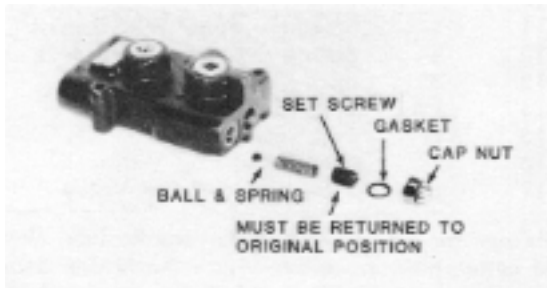

FIG. 15. Implement Relief Valve
5. The relief valve should be removed for cleaning. Remove the cap nut; discard the gasket (Fig. 15).